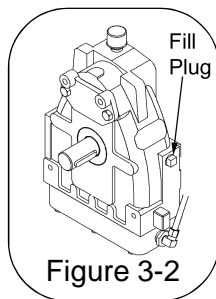

Figure 3-2
1. Remove the gearbox oil fill plug, and check the level of the oil in the gearbox. The level should be up to the plug hole. Figure 3-2